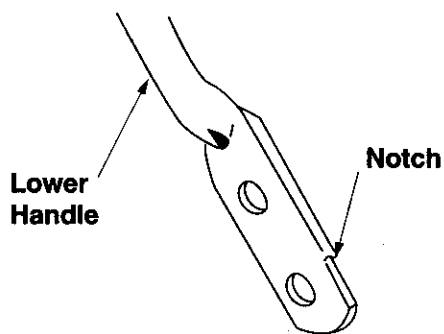

Figure 11
4. Turn the lower handle around so the notches on the bottom of the lower handle are facing forward as shown in Figure 11.